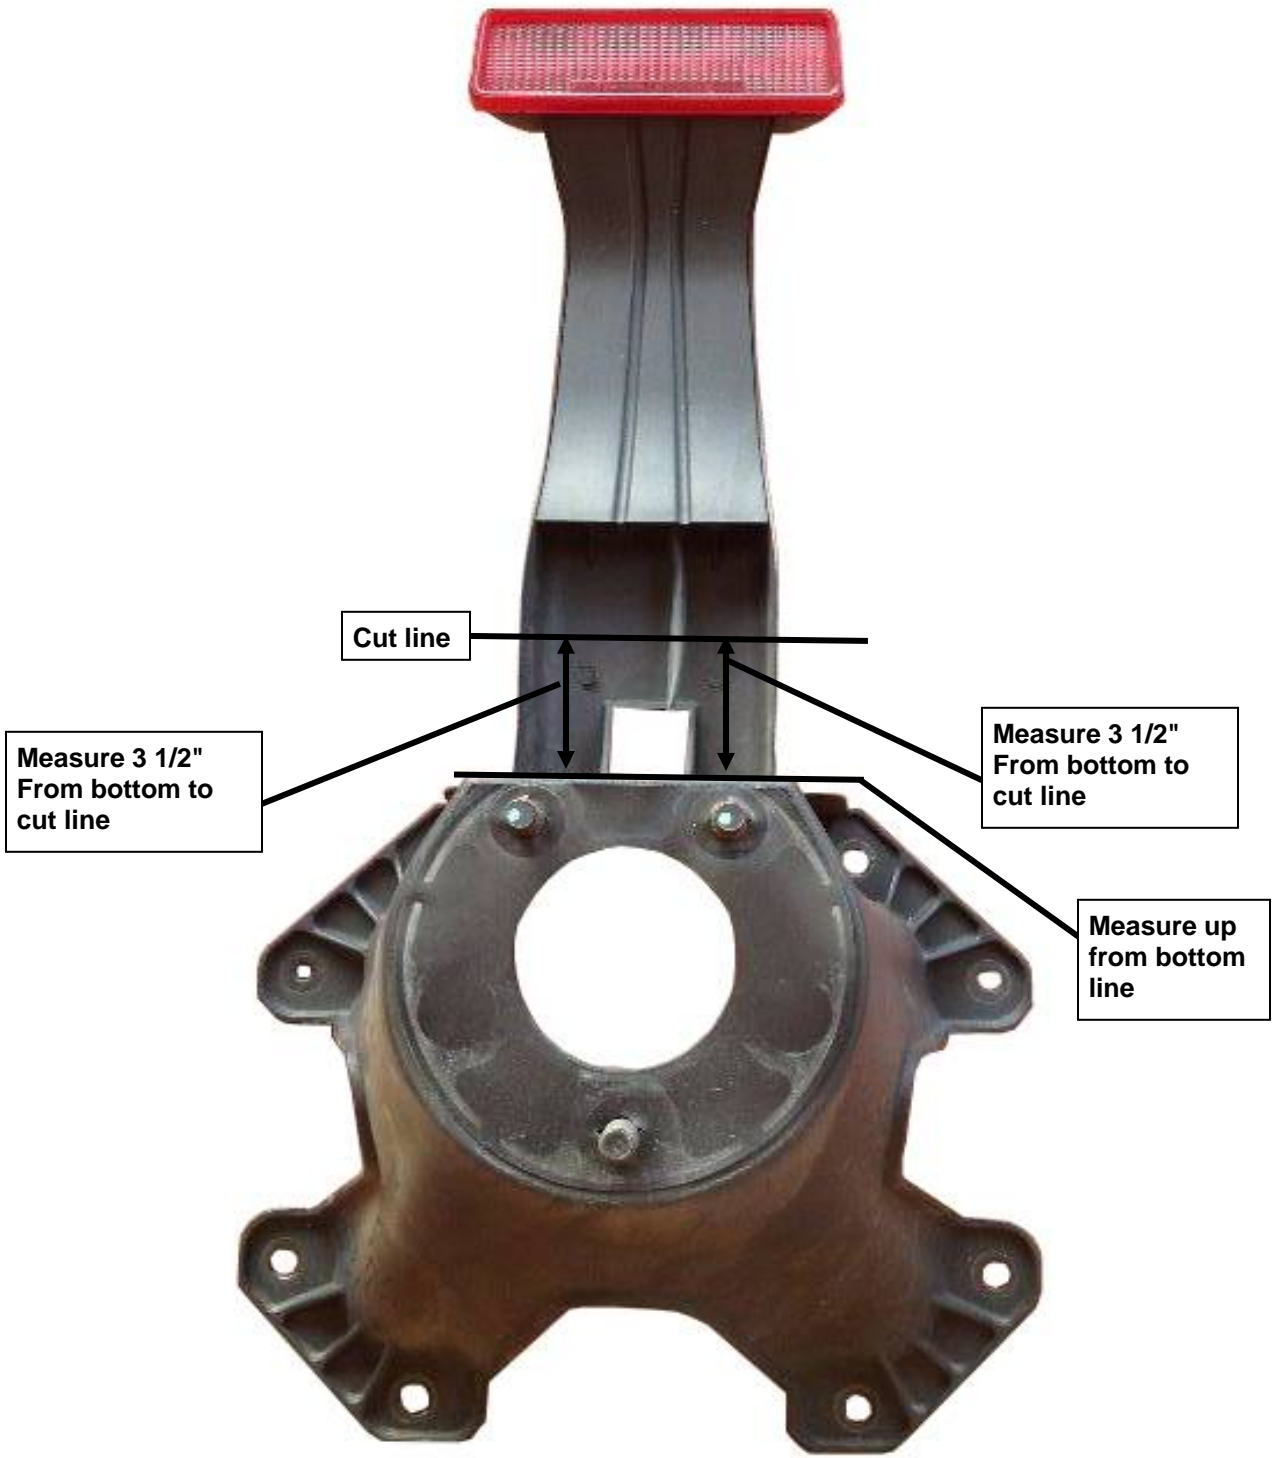

Fig 6
- 4.** Once carrier is separated select the new 3rd brake light bracket and place it into place coupling the rear of carrier, the edge of the bracket should sit flush with the edge of the carrier as seen in (**Fig 6,7&8**) taking note of the alignment, mark holes through the bracket to the carrier for drilling the (4) holes on the bottom (use a 3/8" size drill bit) with these holes drilled it is easier to attach (2) of the 8mm hex bolts (4) 8mm washers & (2) 8mm hex nuts snug but do not tighten for the measuring of the top holes to be drilled.